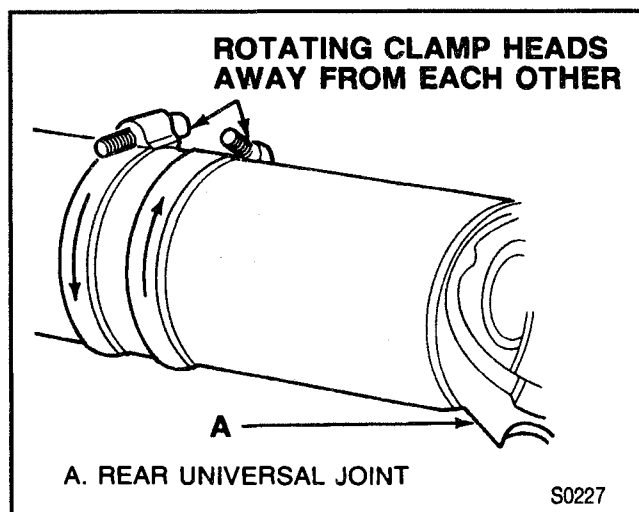

Figure 18—Rotating Hose Clamps
7. Position clamps at point of least imbalance. Rotate the clamp heads away from each other 45 degrees (one on each side of the position) (Figure 18). Run the vehicle and note if balance has improved. In some cases it may be necessary to use one clamp or possibly three clamps in order to obtain a good balance. Replace the propeller shaft if three hose clamps do not improve the balance.